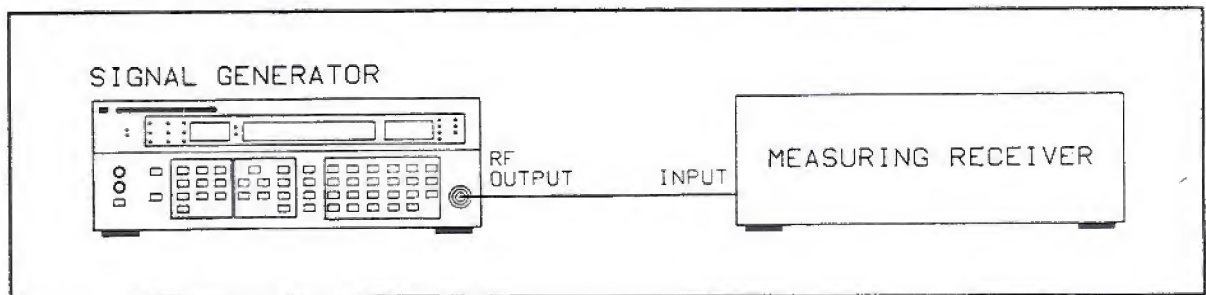

Figure 4-4. Residual FM Test Setup
12. Connect the RF OUTPUT of the Signal Generator under test to the input of the measuring receiver as shown in Figure 4-4.